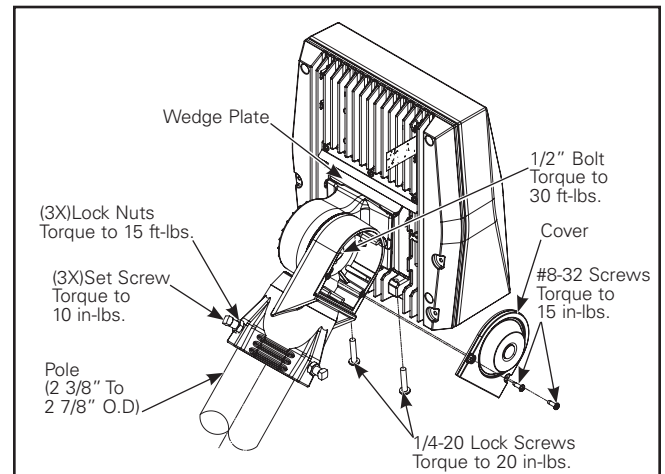

Figure 6. Axcent Large
3. Attach the slipfitter assembly to the fixture. Ensure that the luminaire supply leads are completely underneath the wedge plate and are not pinched. Tighten the two $\frac{1}{4}$ -20 screws on the fixture to 20 in-lbs. (Figure 6.)
5. Place the wires down into the pole or up into the slipfitter body. Lower the slipfitter onto the top of the pole. Ensure that the supply leads are not pinched. (Figure 6.)
7. Remove (2) cover plate screws and cover plate. (Figure 6.)